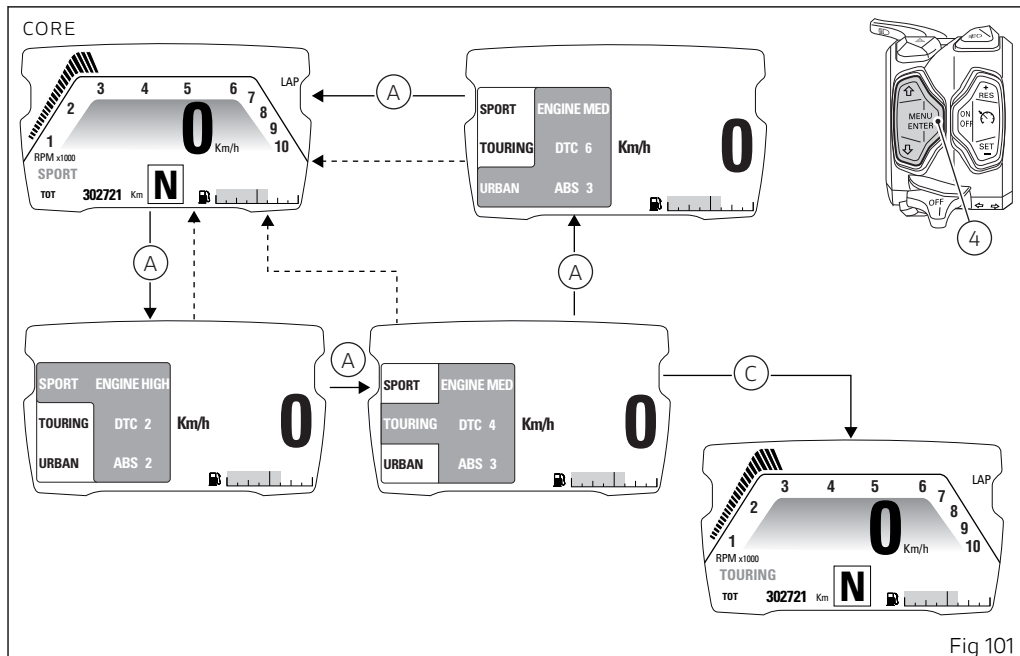

Fig 101
Any time CONFIRM MENU button (4) is pressed, the selected riding mode is highlighted together with the associated parameters (A, Fig 101).
Once the desired riding mode (A, Fig 101) is highlighted, confirm the selection by holding down the CONFIRM MENU button (4) for 2 seconds: the new riding mode selection is stored and the standard screen (C, Fig 101) is displayed for the selected riding mode.